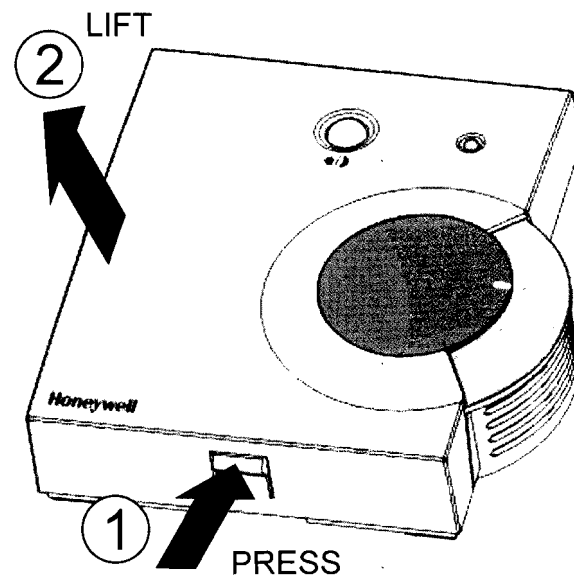

Fig. 1. Cover disassembly
The cover of the wall module is fixed in place using a tab located on the underside of the unit; to remove the cover from the subbase, see Fig. 1.
1. Disassemble the cover as is shown in Fig. 1.